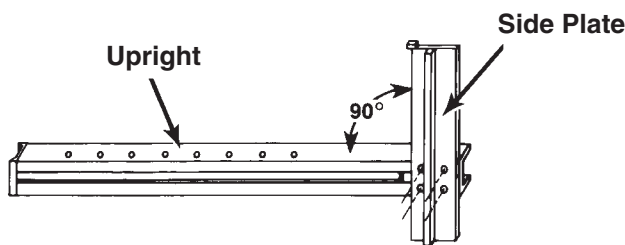

FIGURE 1
1. See Figure 1. Attach the side plates to the uprights using the screws provided (#210244 or #210256). With the side plates positioned at 90° to the uprights, torque the screws to 800/900 ft. lbs. (1088/1224 N•m).